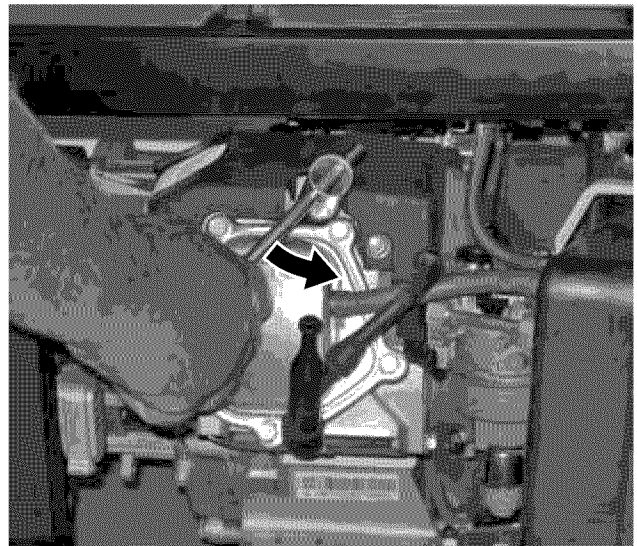

Figure 40 – Removing Spark Plug
5. Using the 13/16" spark plug socket wrench provided, remove the spark plug from the cylinder head (see Figure 40).